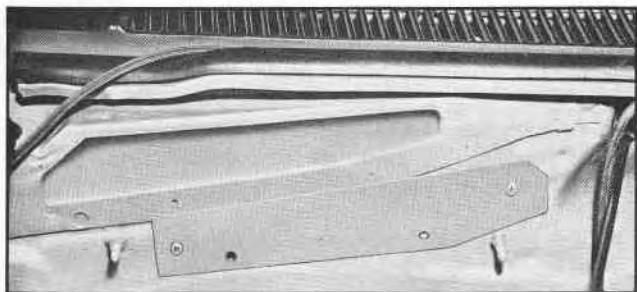
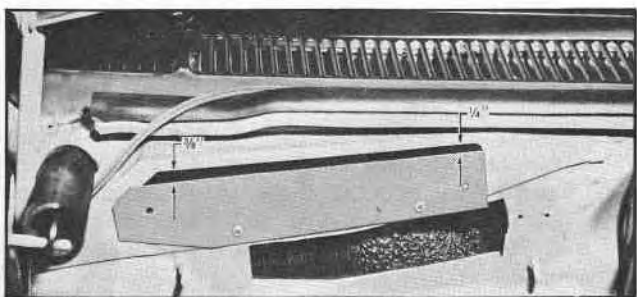

Fig. 3 Production Cover Plate
Fig. 4 Position of Plate for Cooler Weather
5. Place a bead of body sealer around the sides and lower outer edge of the 530753 cover. Place over the outside air opening to cover all but a gap 1/4", wide which would extend the entire length upper part of the hole (See Fig. 4).
During the cooler weather, the owner may wish to have the plate positioned as shown in Fig. 3 to prevent outside air from entering the car.
partment into the inlet filter housing. This opening will be covered in production by a cover as shown in Fig. 3. Should the owner desire greater air cooling, it will be necessary to remove the filter housing and move this cover so as to form a baffle at the outside of the intake opening as shown in Fig. 4. Care should be used to seal between the dash and the cover to prevent water from entering the car.
NOTE: During cooler weather, the owner may wish to have the plate positioned as in Fig. 3 to prevent outside air from entering the car.